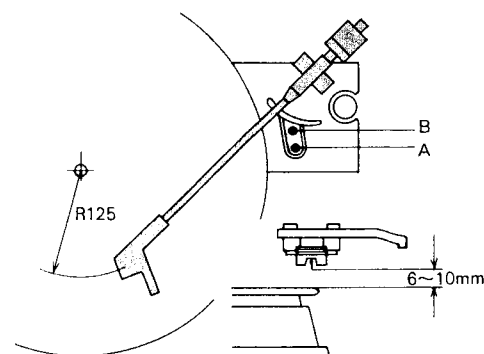

Fig. 6
- Set the cueing knob to ∇ position and move the tonearm over the record surface (Fig. 6). The clearance between the stylus point and the record should measure between 6–10 mm (0.24–0.39 in.). This dimension is set by screw A (Fig. 6).
- Move the tonearm to the end of the record and slowly rotate the turntable platter until the tonearm starts returning. Stop the platter rotation when the tonearm is in the approximate position as above. Again measure the distance between the stylus point and the record surface. This measurement should be approximately the same clearance 6–10 mm (0.24–0.39 in.). If the height needs to be adjusted, adjust screw B (Fig. 6).